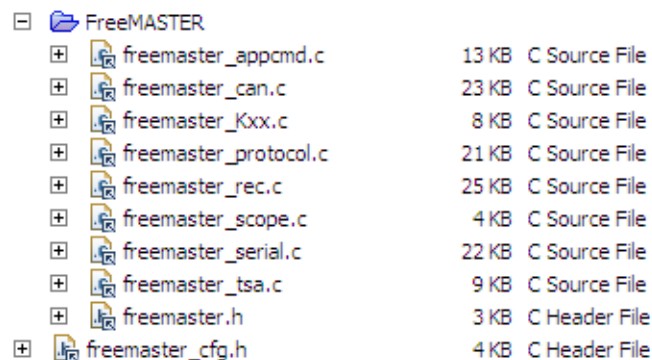

Figure 7-1. FreeMASTER group in CodeWarrior 10.x
- Manual files installation. The TSS_USE_FREEMASTER_GUI macro must be set to 1 in the TSS_SystemSetup.h file and files added manually to the project. See Figure 7-1.